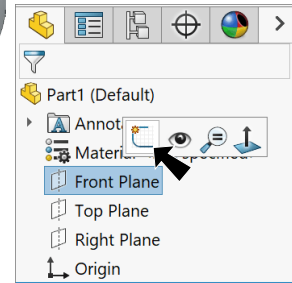
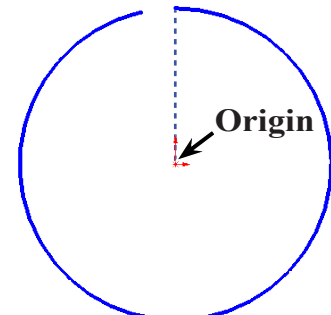
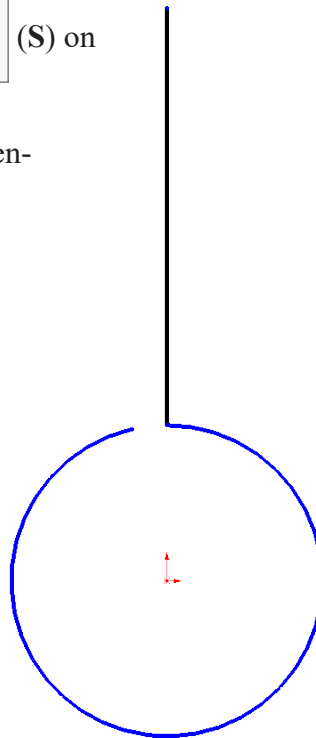
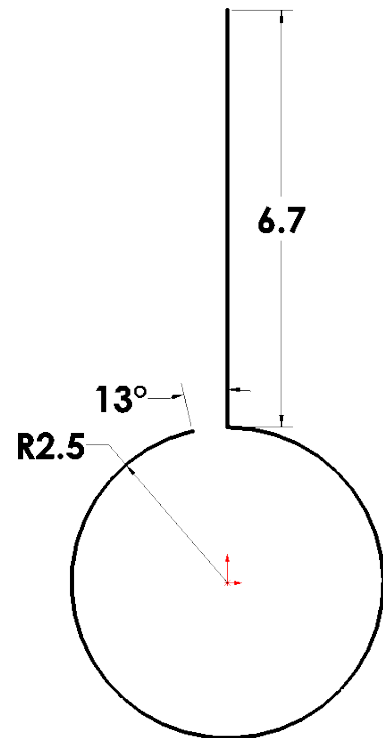

Fig. 1
Fig. 2
Fig. 3
Fig. 4
Step 2. Click **Front Plane**  in the Feature Manager and click **Sketch**  on the context toolbar, **Fig. 1**.
Step 3. Click **Centerpoint Arc**  (S) in the Arc flyout  on the Sketch toolbar.
Step 4. Sketch a slightly open arc starting from the Origin , **Fig. 2**. To sketch the arc, click the Origin to place the center of the arc. Start the first arc endpoint directly above the Origin, then swing the arc to the right around counterclockwise. Click to place the second endpoint leaving a gap between endpoints.
Step 5. Click **Line**  (L) on the Sketch toolbar.
Step 6. Sketch line up from arc endpoint that is directly above Origin, **Fig. 3**.
Step 7. Click **Smart Dimension**  (S) on the Sketch toolbar.
Step 8. Add dimensions, **Fig. 4**. To dimension angle between the two arc endpoints, click Origin  for vertex of angle and then click the two arc endpoints. Move the cursor and click to place dimension. Key in 13 and press ENTER.